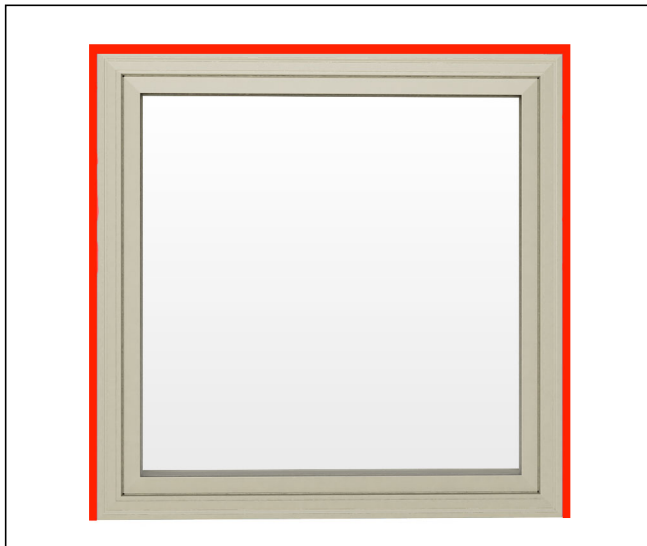

Figure 12
7. Seal casing with clear grade NS class 25 sealant at each jamb and the head jamb to siding or weather resistant barrier. (If required, backer rod may be used.) See figure 12.